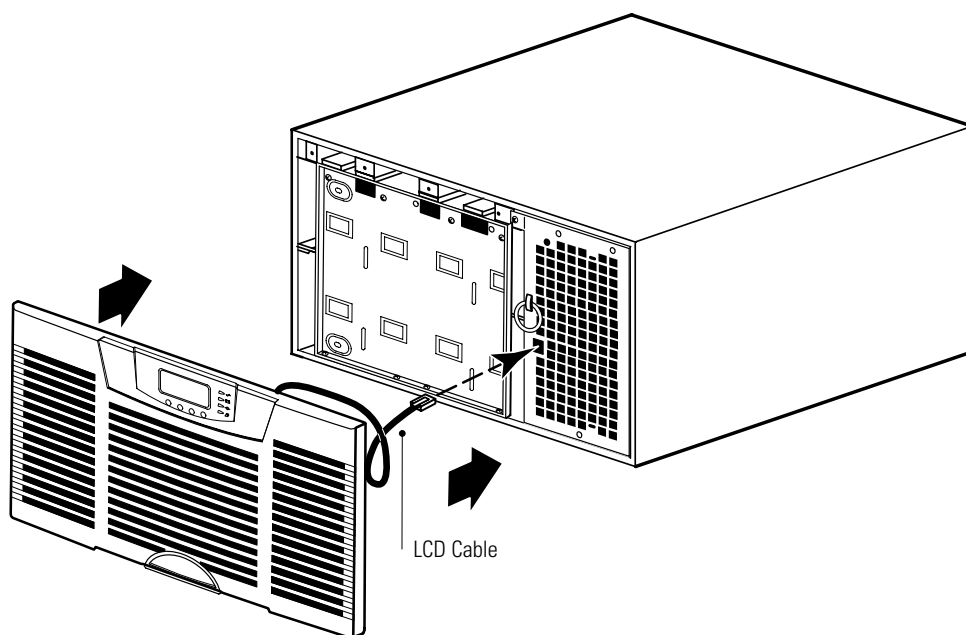

Figure 53. Replacing the UPS Front Cover
7. Replace the UPS front cover (see Figure 53):